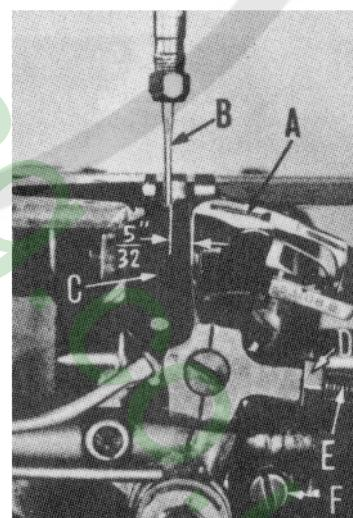
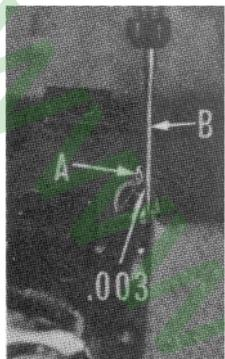

Fig. 5
Fig. 6
With the zig-zag motion at the end of its stroke to the right, set the looper (A, Fig. 5) so the distance from the center of the needle (B) to the point of the looper is 5/32 inch, when the looper is at its farthest position to the right. Looper gauge No. 21225-5/32 (C) can be used advantageously in making this adjustment. If adjustment is needed, loosen nut (D) (it has a left hand thread) and also loosen nut on right end of connecting rod (E), turn connecting rod forward or backward to obtain 5/32 inch and retighten both nuts.
The looper is set correctly in line with the feed when there is .003 inch space between its point (A, Fig. 6) and the rear of the needle (B) as the former is ascending on the right side. If adjustment is needed, loosen screw (F, Fig. 5) and move looper toward or away from needle as required and retighten screw when .003 inch space is obtained.